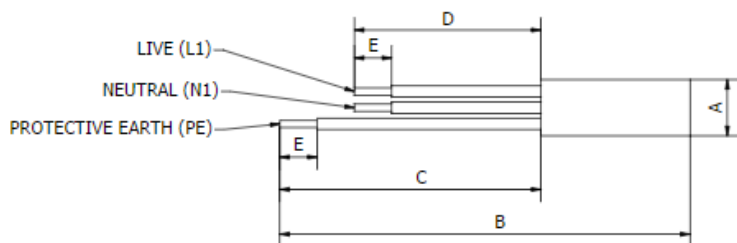
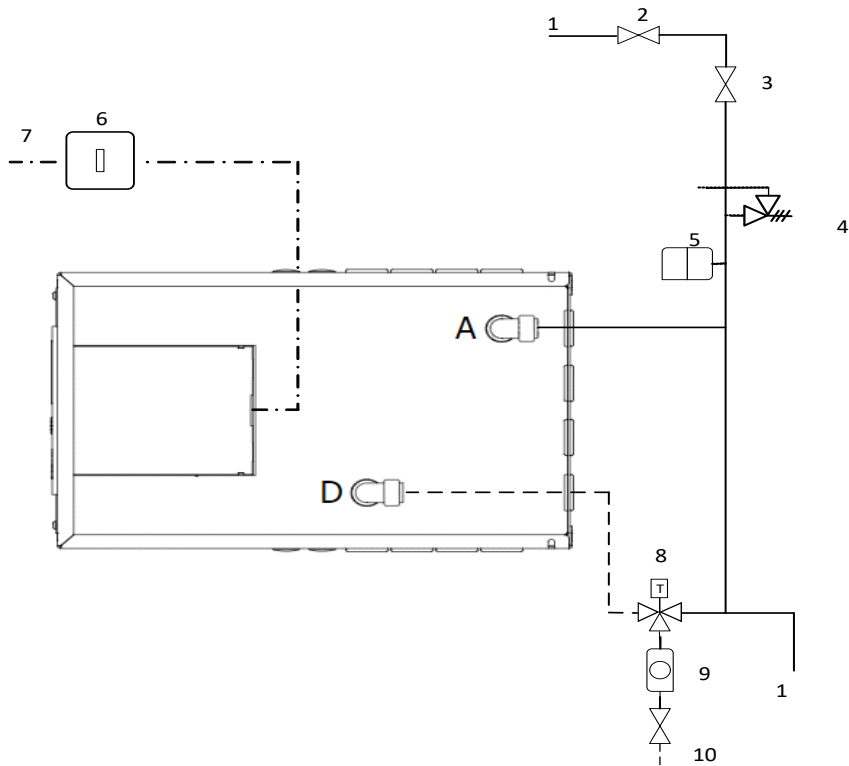

Figure 10: Wire length preparation diagram
Figure 12.1: Example wiring option 1 schematic (see Figure 3 for piping and electrical options available)
- The mains power cable to the Sunamp Controller should be a minimum of 2.5mm², 3 core H05 VV-F sheathed cable, to BS 6500. This cable must be prepared according to Figure 10 (below), where the Green/Yellow (Protective Earth) wire is 15mm longer than the Brown (Live) and Blue (Neutral) wires.
- Run and connect 3 Core mains power supply cable (16A, minimum 2.5mm² CSA) from the local 2-pole isolator to the Heat Battery controller (Figures 12.1 and 12.2).
- Prepare, if necessary (Figure 10) and wire the mains power cable in the following terminals (Figure 12.1):